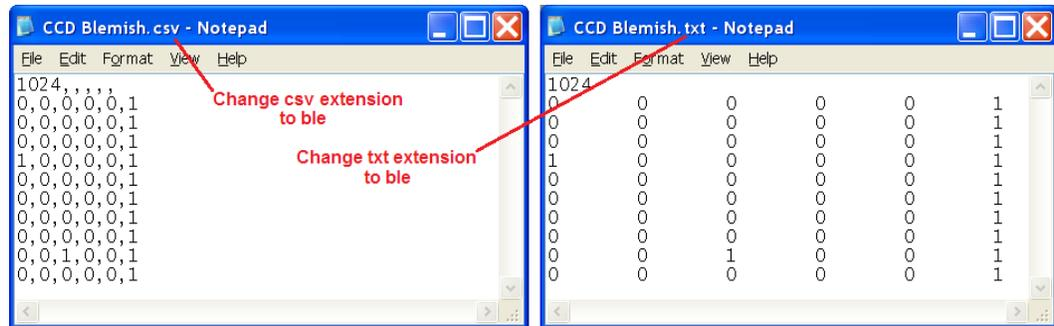

Figure 93. Blemish Files: CSV format and Tab Delimited format
4. For each pixel in a row, enter either a 0 (no blemish) or a 1 (blemish), a comma or tab separator, and press [Enter] after you have completed the entries for that row. Figure 93 shows both comma and tab separated entries.
Note: In the files shown in Figure 93, the blemishes did not go beyond the sixth column on the sensor. It was not necessary to enter values for the remaining blemish free columns.
5. If there was only one column blemish and it started in row 1, column 6 of the sensor, you would have five 0s and a 1 in the sixth position as shown in Figure 93. You would repeat this entry in succeeding rows until you reached the limit of the blemish. If there were also individual pixel defects you want corrected, you would replace the appropriate 0s with 1s. Before you can use the blemish file, it must contain the initial row indicating the sensor height and a row of values for each row on the sensor. The blemish file for a 1024 high sensor would contain 1025 rows; for a 200 high sensor, the file would contain 201 rows.